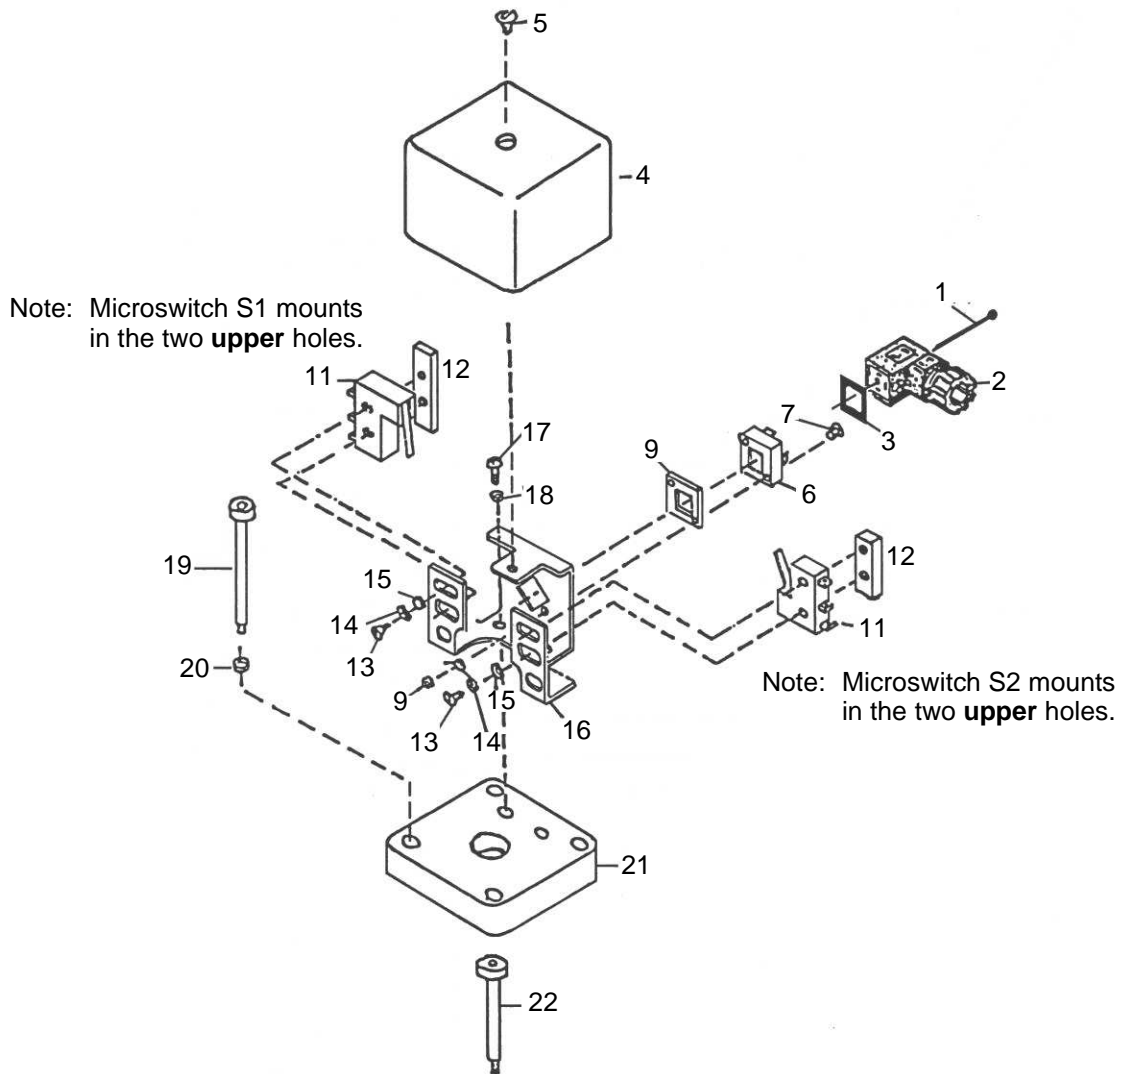
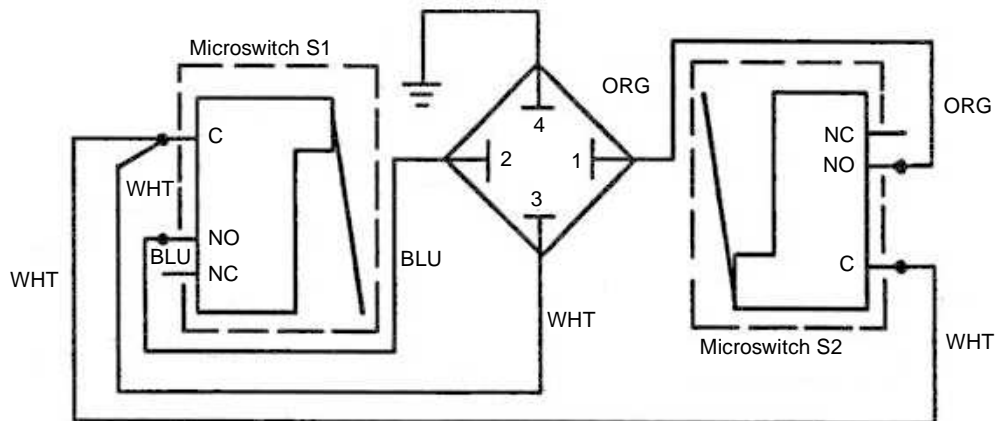

Figure 1-9 Position Indicator Assembly Exploded View
Figure 1-10 Wiring Diagram – Position Indicator
Figure 1-9 shows an exploded view of the position indicator and Table 1-7 lists the associated callouts.
Refer to Figure 1-9 on page 1-19 for this procedure:
2. Unscrew the mounting screws (13) and remove the Microswitch (11).
3. Reassemble a new switch on the bracket (16) as shown in Figure 1-9 on page 1-19. Note the position of the switches on the bracket and wire the microswitches as shown in Figure 1-10 on page 1-23.
Refer to Figure 1-9 on page 1-19 for this procedure.
- Wire terminal contacts as detailed in Figure 1-10.
- Connect an Ohmmeter to pin 1 (orange wire, Figure 1-10) and pin S (white wire) of switch S2 connector, then set the meter to measure resistance (Ohms).